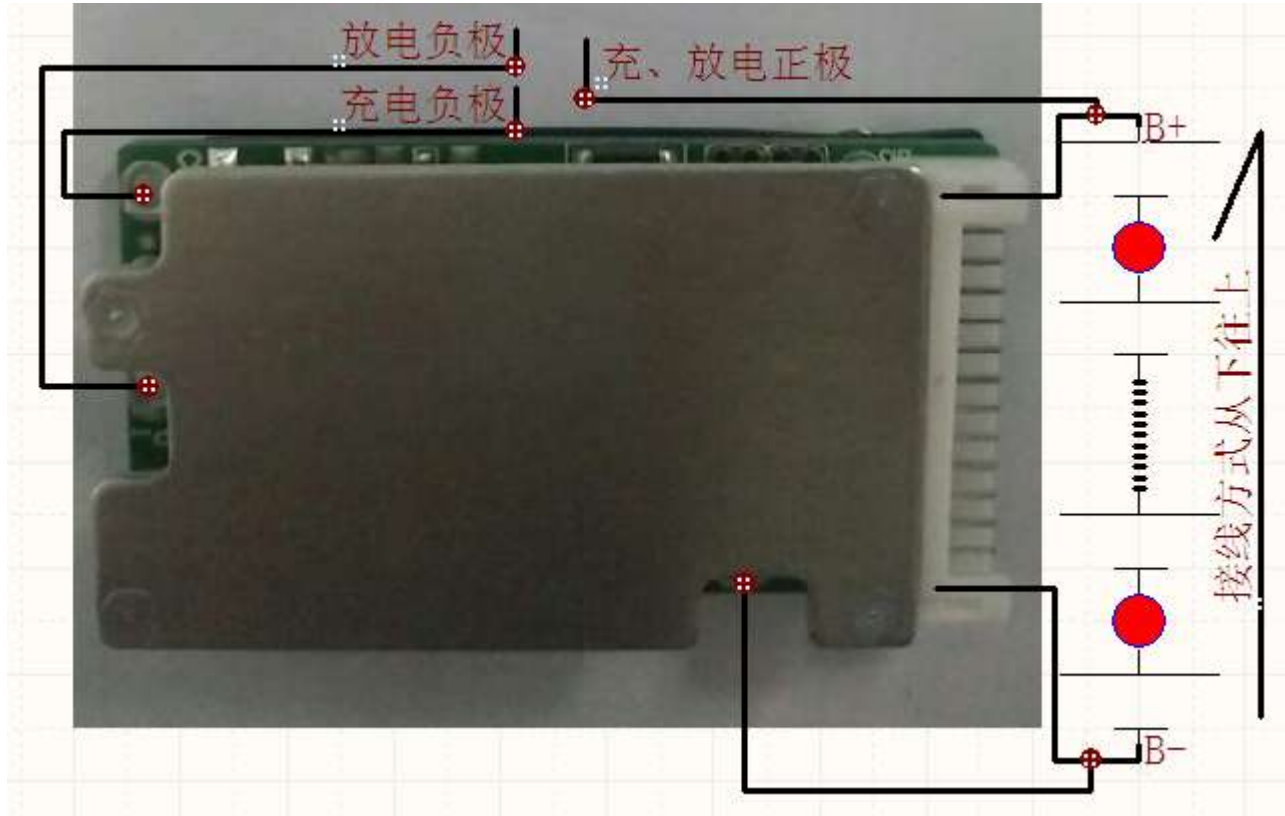

图1. 保护板连接示意图 Figure1 Diagram connection of PCM
**Preparation:** Connect the flat cable, which is use to detect battery voltage, to cells as described in Figure 1 and Figure 2. Please pay attention to the pin order of the plug.